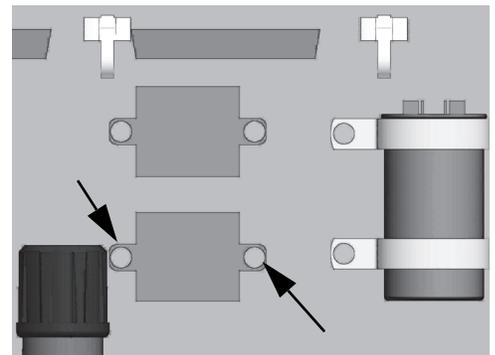

Figure 59.
5. Disconnect the wires connected to relay and remove the two screws as shown in Figure 59.